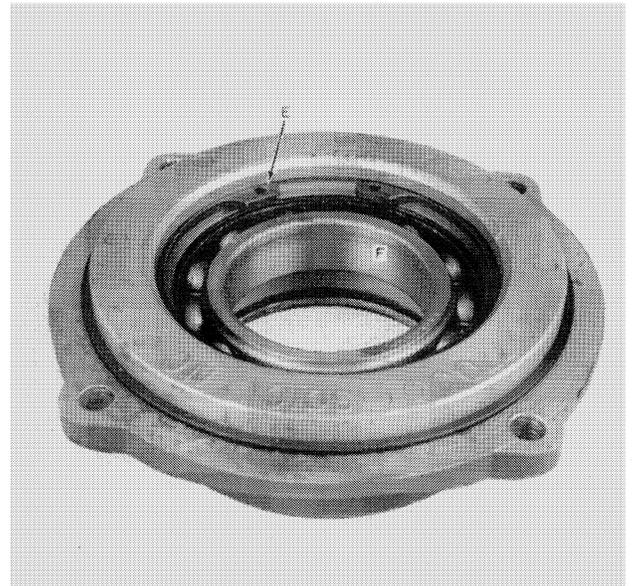

FIGURE 19
7. Remove bearing retaining ring, E, Figure 19. Remove bearing, F.
1. Install bearing, F, and retaining ring, E, Figure 19, in front plate.